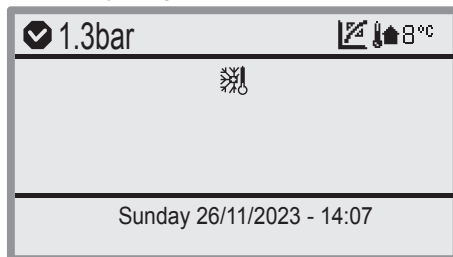

Fig. 7.3
- Electrically power the boiler by activating the installed bipolar switch. The LCD display shows the  symbol (boiler in Stand-by) (Fig. 7.3).